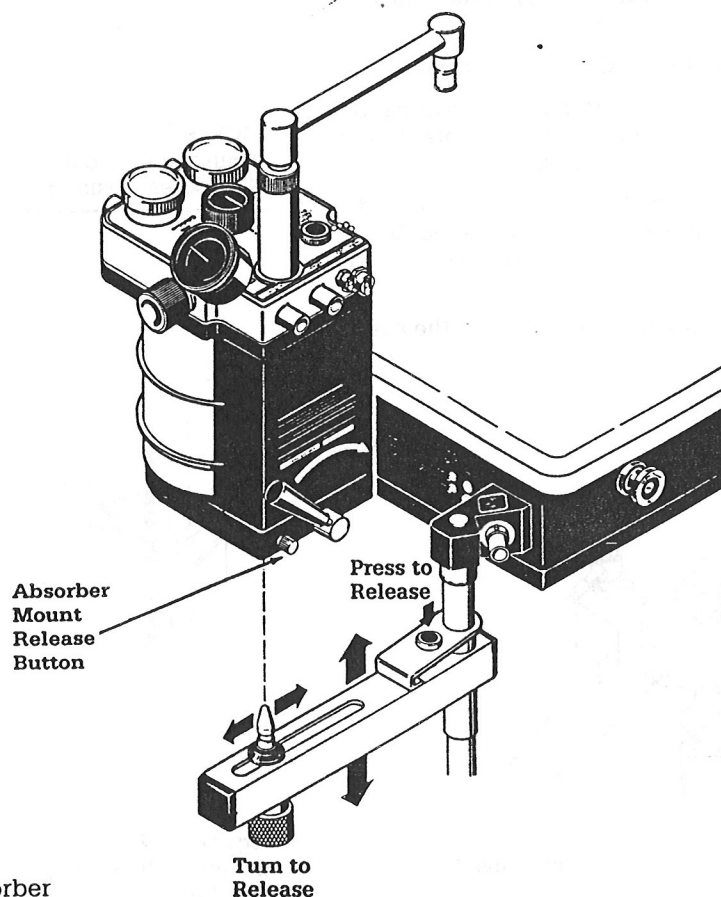

Figure 2-1
1. Turn the absorber mounting release, which is next to the absorber's locking lever, counterclockwise as far as it will go. (See figure 2-1.)